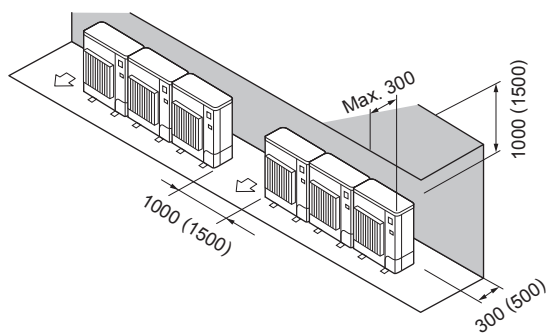

Fig. 1-12
- ② Obstacles at rear and above only (Fig. 1-12)